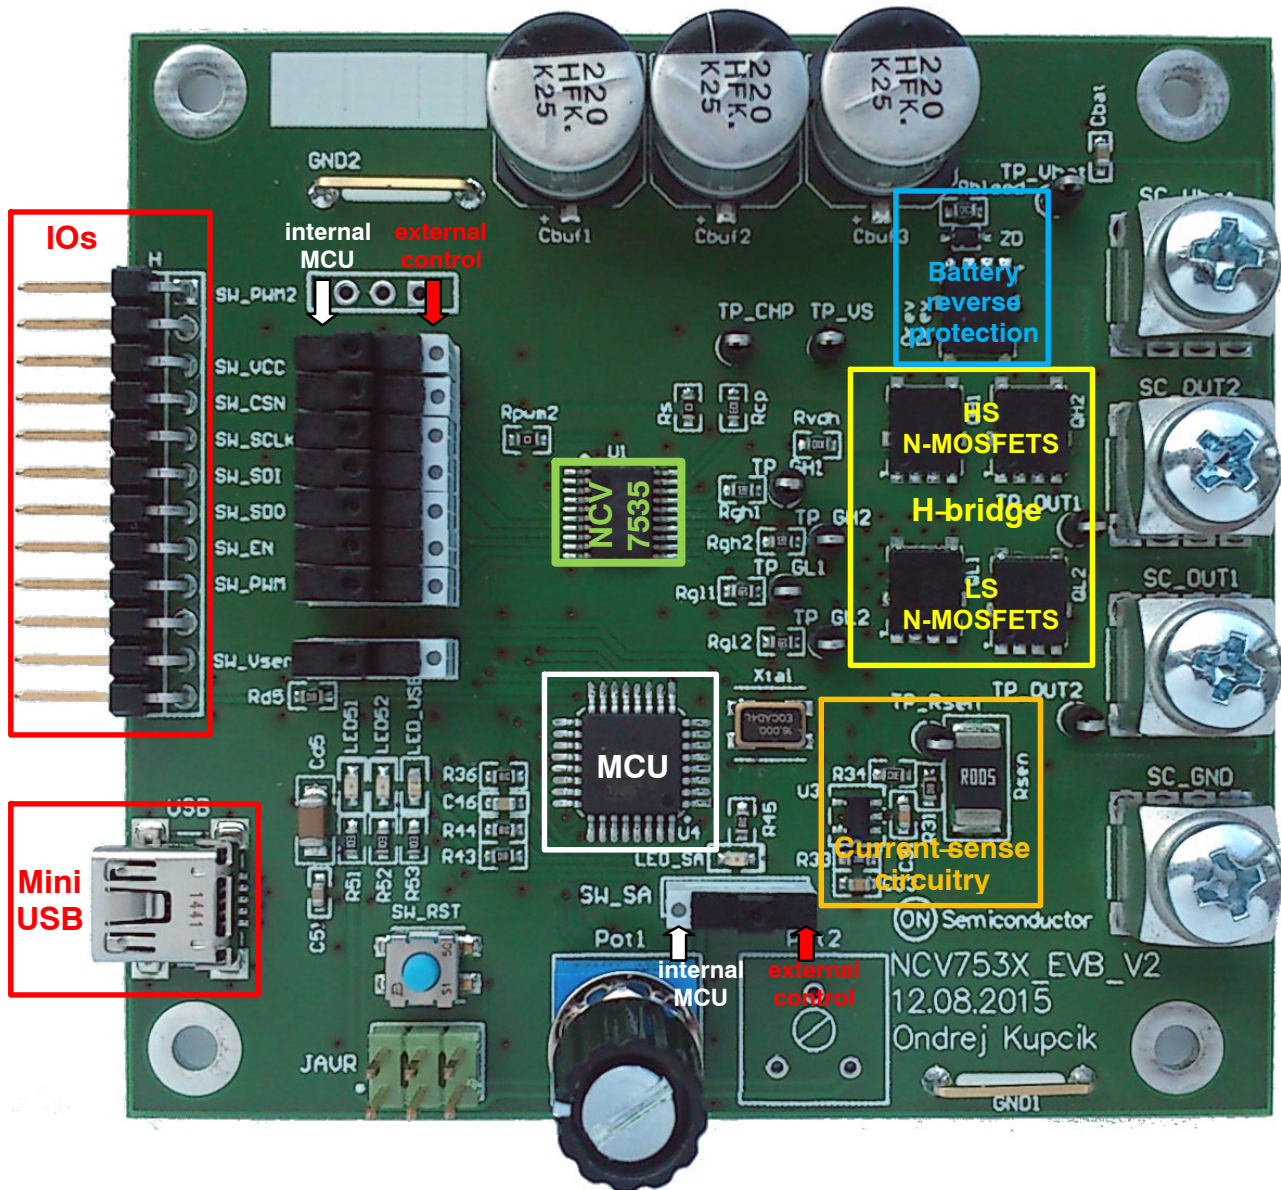

Figure 3. NCV7535 Evaluation Board Picture, Top Side
- ◆ All the slide switches (incl. SW\_SA) have to be set to the position as shown in Figure 3.
- ◆ All the switches (incl. SW\_SA) have to be set to the position as shown in Figure 3.
1. Move slide switches “SW\_xx” to the left position (see Figure 3.)